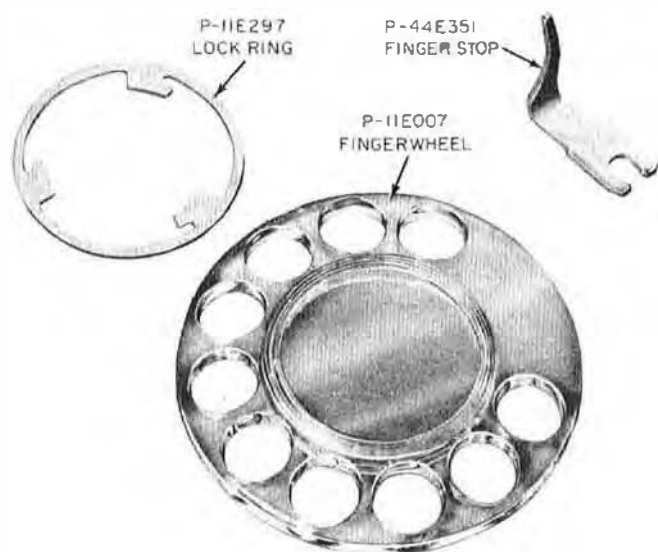
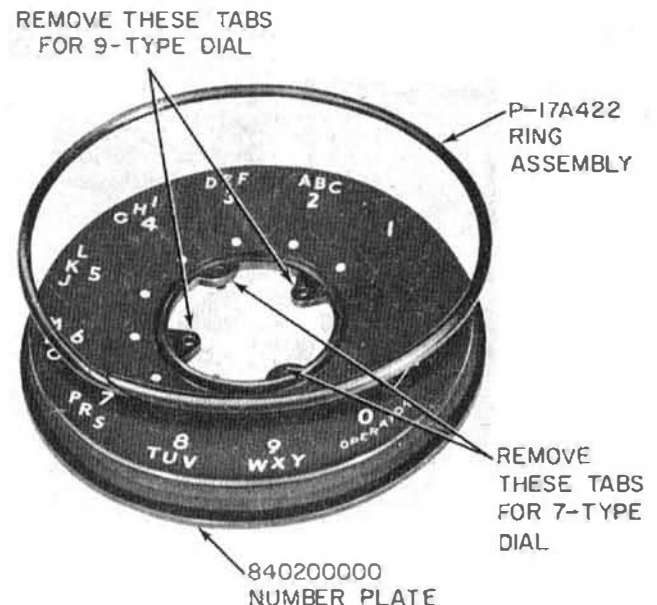

Fig. 1—9-Type Dial Adapter Parts
Fig. 3—Universal Dial Number Plate and Ring Assembly
(1) A package of dial adapter parts for a 9- or 7-type dial will be packed with the base depending on type dial on the base.
(2) 9-Type Dial: (Early version), install dial number plate (packaged with housings) finger stop, lock ring, and finger wheel (Fig. 1). (Current version) requires the two tabs with holes be broken off universal dial number plate and parts shown in (Fig. 1) be used except for P-11E297 lock ring. New P-17A422 ring assembly (Fig. 3) furnished with universal dial number plate is required. Provide station number card.